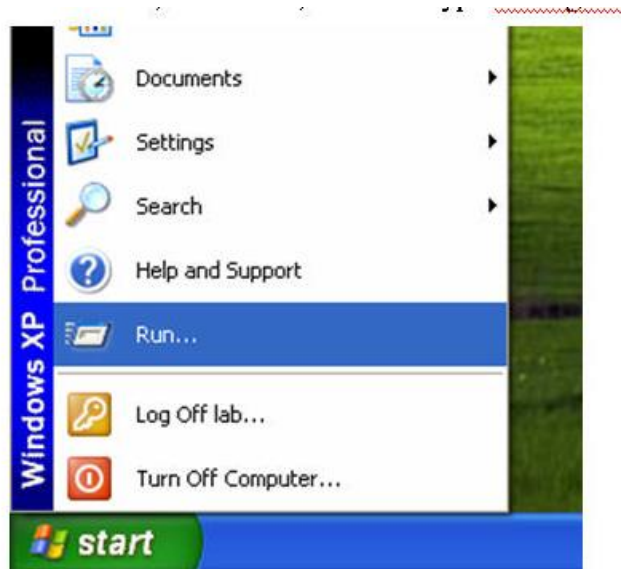

Figure 11. Windows XP Professional Start Window
2. On the desktop, open the **Start** menu. See Figure 11 on page 34 for an example of the Start menu.